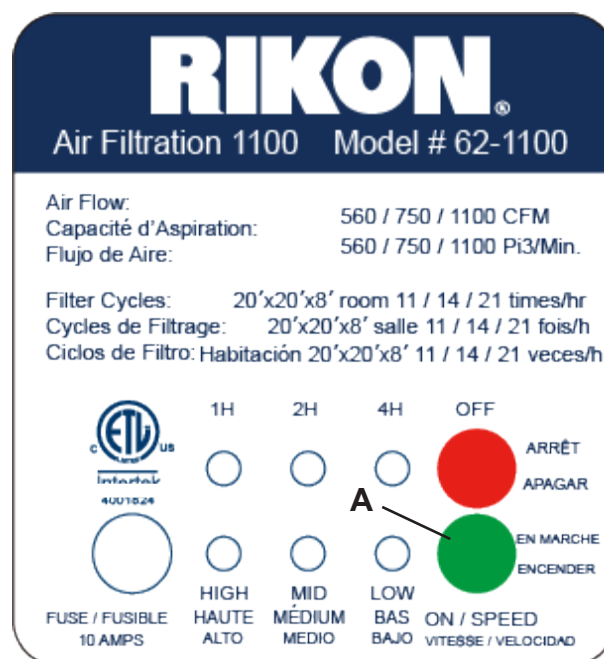
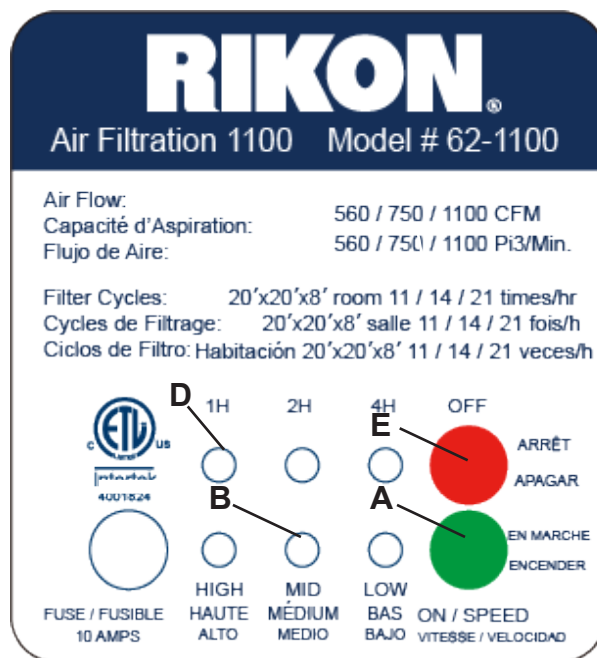
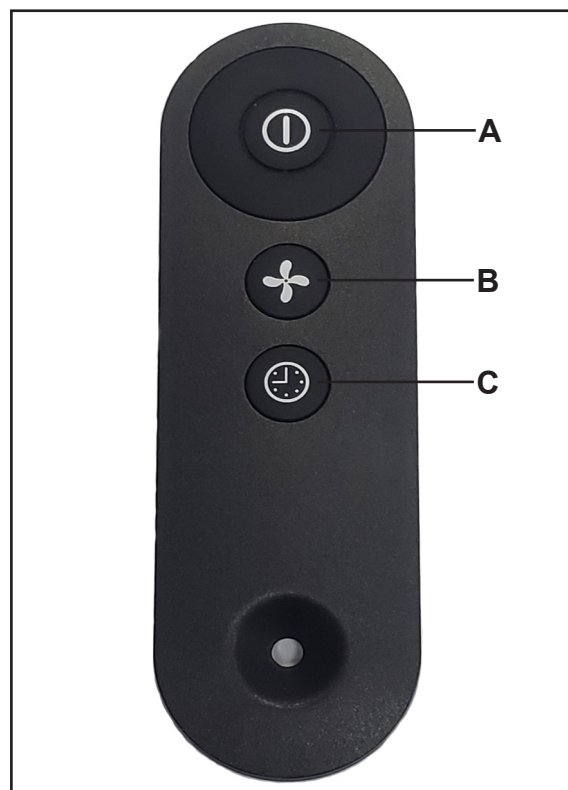

Fig.07
Fig.08
Fig.09
Turn on the air filter and speed setting (Fig.07 and Fig.08)
Set the timer (Fig.08 and Fig.09)
1. Press the TIME button (C) on the remote control (Fig.09) to start the timer.
2. Press the TIME button (C) on the remote control again to set the length of operation. The LEDs (D-Fig.08) on the control panel indicate the amount of time selected - 1 hour, 2 hours, 4 hours. Press a fourth time to clear the timer.
To turn off the Air Filter, press the OFF button (E-Fig.08) on the control panel or (A-Fig.09) on the remote control.
Remote Control (Fig.09)
The air filtration system can also be operated with the supplied infrared remote control. The infrared receiver is located on the main control panel. The remote control has the same functions as the main control panel above in Fig.08. However; the timer can be set ONLY with the remote control. Fig.09, (C).